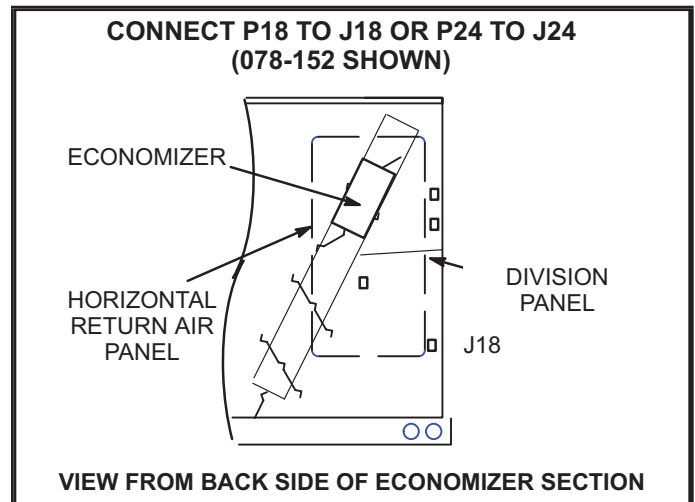

FIGURE 16
- 3 - Reach through fan orifice and connect power exhaust fan P18 plug to unit J18 jack. J18 is located on the wall between the economizer and compressor section. See FIGURE 16.